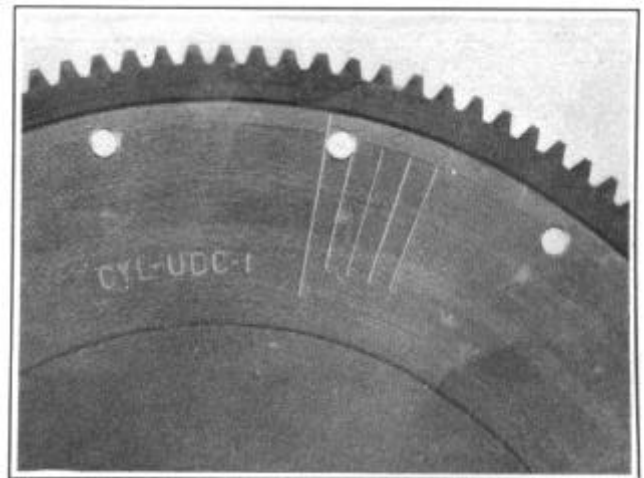

FIGURE 21
1. Line up the first line before the UDC mark on the flywheel with the pointer on the flywheel housing, Figure 21, with No. 1 cylinder on compression stroke.
Ignition timing may be accurately set by using a neon timing light. Connect the timing light as recommended by manufacturer. Mark the long line on the flywheel (Figure 21) with white chalk and loosen the screw attaching distributor quadrant to engine. Operate the engine at idle speed with the timing light aimed at the flywheel opening and rotate the distributor until chalk mark lines up with the pointer. Tighten the quadrant screw and accelerate the engine. Chalk mark should move to the left of pointer as centrifugal governor advances the spark.